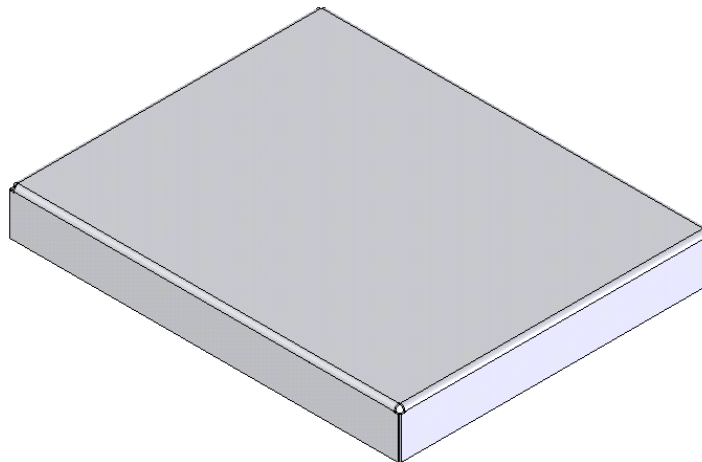

Figure 16-161 Solid shelled model after converting it into sheet metal
- Convert the shelled solid model into sheet metal component, refer to Figure 16-161.
The model after converting solid shelled model into sheet metal is displayed in Figure 16-161.